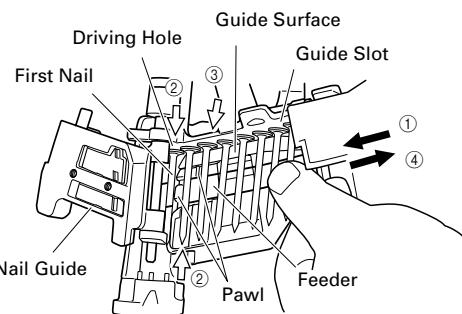

Fig. 4
(4) Close the magazine cover.
- (5) ① Uncoil enough nails to reach the driving hole.
- ② Insert the first nail into the driving hole and the second nail between the two pawls of the feeder.
- ③ Fit the nail heads in the guide slot. (Fig. 4)